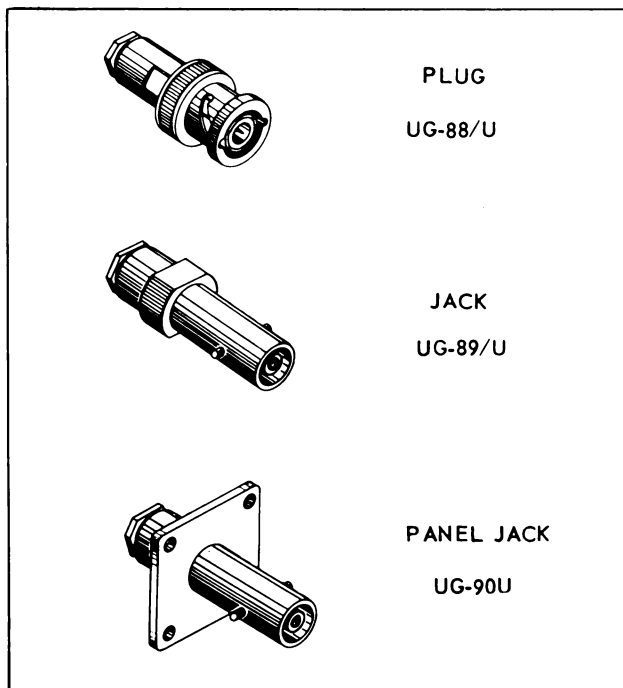
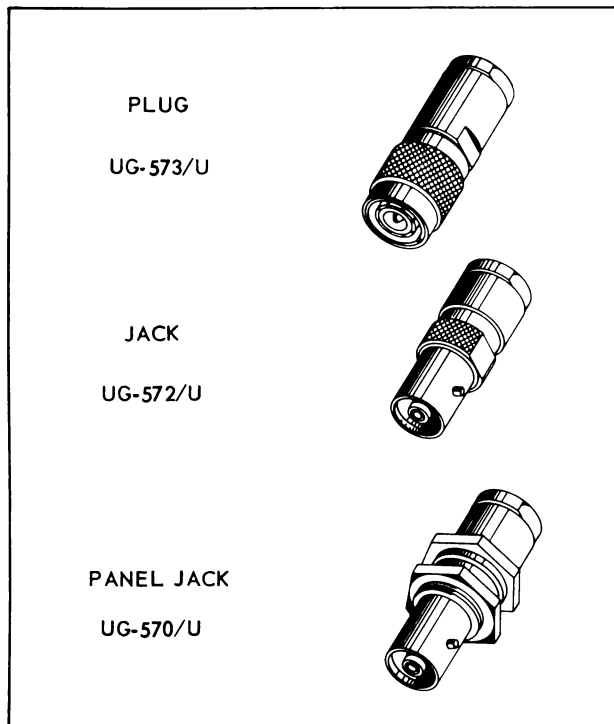

Figure 4-1. Typical BNC Connectors
Figure 4-4. Typical C Connectors
a. BNC Series. See Figure 4-1. A small, light-weight, bayonet type, quick-connect/-disconnect connector, used with small rf cables, where peak voltage is not more than 500 volts.
d. C Series. See Figure 4-4. A late model, bayonet type, quick-connect/-disconnect connector used with medium size rf cables. It is electrically similar to the N Series.
4-4. RF CONNECTORS. RF connectors are available as plugs, jacks and panel jacks. Plugs and jacks are attached to the ends of coaxial cables while panel jacks are mounted to panels or chassis. Some panel jacks are fastened by means of four screws through holes in a plate integral with the jack body (See Figure 4-1). Other panel jacks are fastened by means of a single nut threaded over the jack body (See Figure 4-4). Plugs always have male contacts; jacks and panel jacks always have female contacts.
versions of BNC connectors. These versions differ in the method of securing the coaxial cable to the connector body. See Figure 4-1 for typical examples of BNC connectors. Table XXVI lists the more common connectors in the BNC series and shows the coaxial cables associated with each.